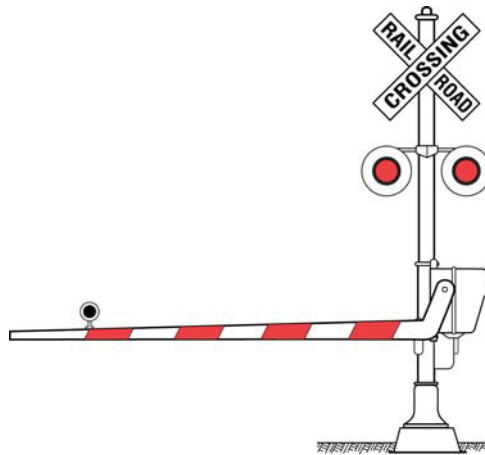

Figure 7-2. Railroad-Crossing Gate.
Figure 7-2 shows a typical railroad-crossing gate. *It is illegal to drive around a lowered railroad-crossing gate or have them lifted, unless directed to do so by a law enforcement officer or an authorized railroad employee.* Yet nearly 50 percent of vehicle/train collisions occur at crossings with active warning devices (gates, lights, and bells). Remember that in a confrontation between a train and a vehicle, the train always wins.
- Gates/lights—Some railroad crossings have automatic gates that close to block the roadway when a train approaches (see Figure 7-2). Other crossings have lights, either in combination with gates or alone. Lights might appear at the sides of the roadway or above the intersection. Some crossings have advance warning lights prior to reaching the intersection.